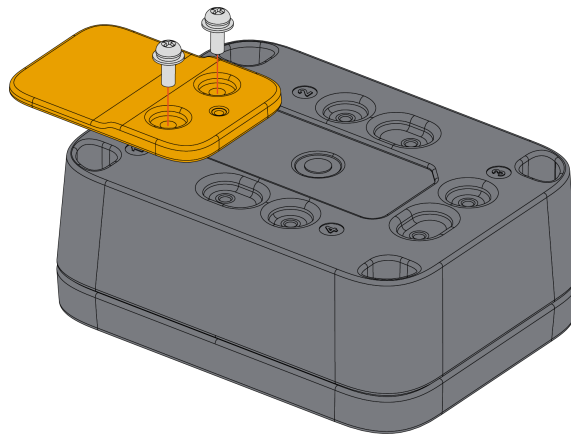

Figure 34: Fixing the label mount on the enclosure
2. Fix the label mount marked with the letter I on the WisBlock Unify Enclosure using two (2) pieces of M3*8 mm Head screw with washer. Place it on fixed position numbers **1 to 4** of the enclosure as shown in **Figure 34**.